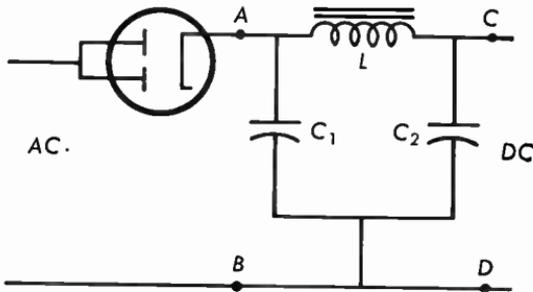

Fig. 9.01a: Half-wave rectifier with filter circuit.
**9.01** The rectifier type 25Z5 is used in the rectifier circuit of Figure 9.01a. The line voltage is 117 volts, 60 cycles,  $L = 15$  henries,  $C_1 = C_2 = 16$  microfarads. The resistance of the choke is 30 ohms. The d-c load draws 50 milliamperes from the rectifier. What is the approximate ripple voltage at  $AB$ ? At  $CD$ ?